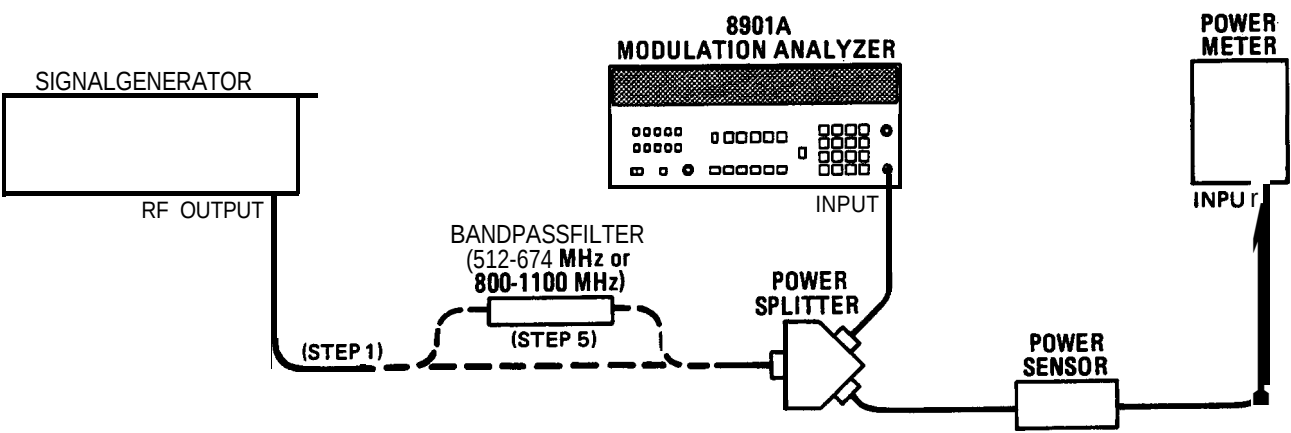

Figure 4-7. RF Level Accuracy Performance Test Setup
2. Connect equipment as shown in **figure 4-7**.